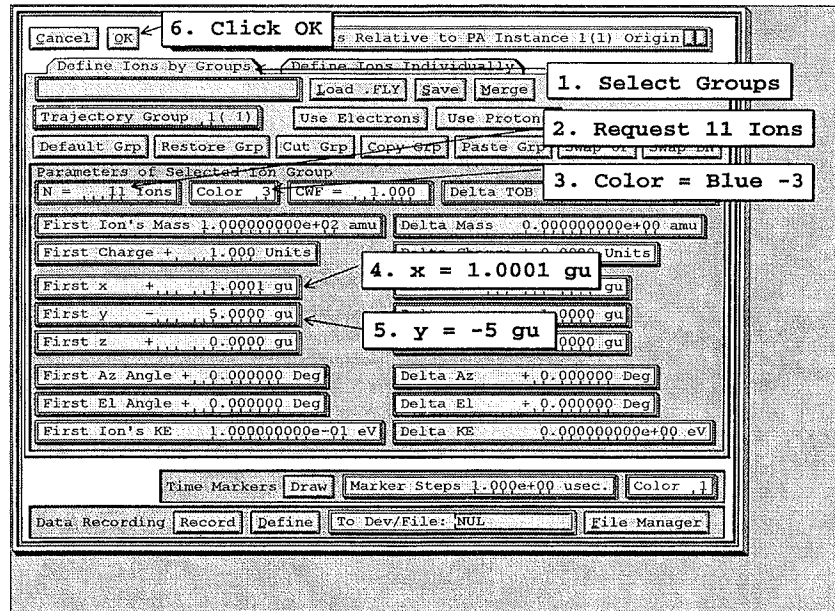

Figure 2-18 Defining a group of ions to fly
The next task is to define some ions to fly. This is done by clicking the **Def** button on the Normal Controls Screen (*the Normal tab is selected*). You should now be looking at the Ion Definition Screen (*Figure 2-18 below*).
3. Set the color of the ions to blue (3) using the **Color** panel.
5. Set the **First y** panel to -5.0. and make sure the rest of your settings match those in Figure 2-18.